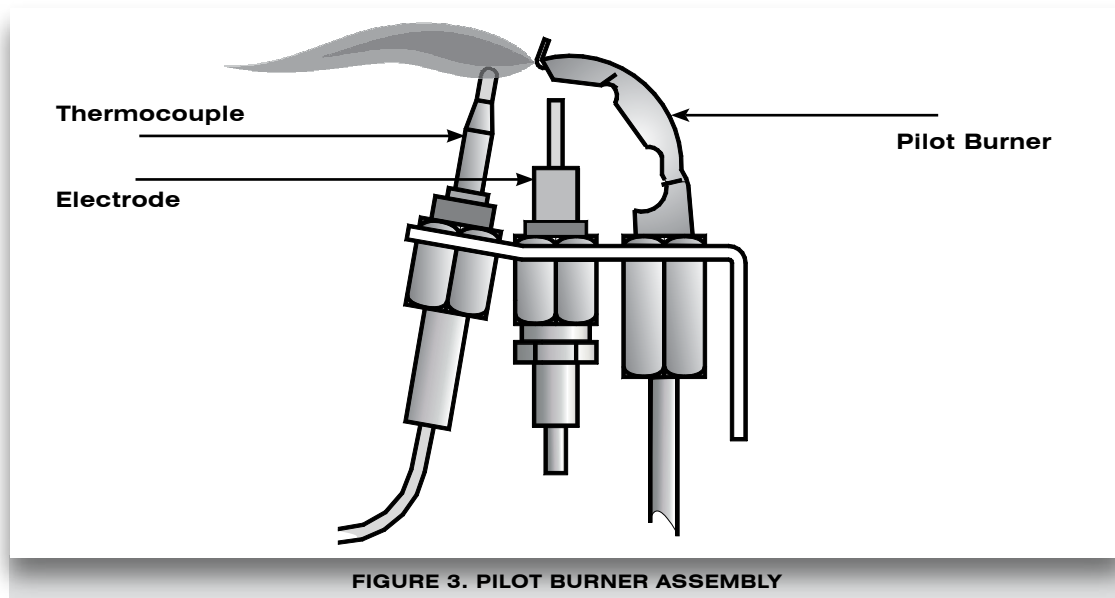

FIGURE 3. PILOT BURNER ASSEMBLY
- 7.3.7 Ensure that the pilot flame envelops thermocouple tip (refer to figure 3).